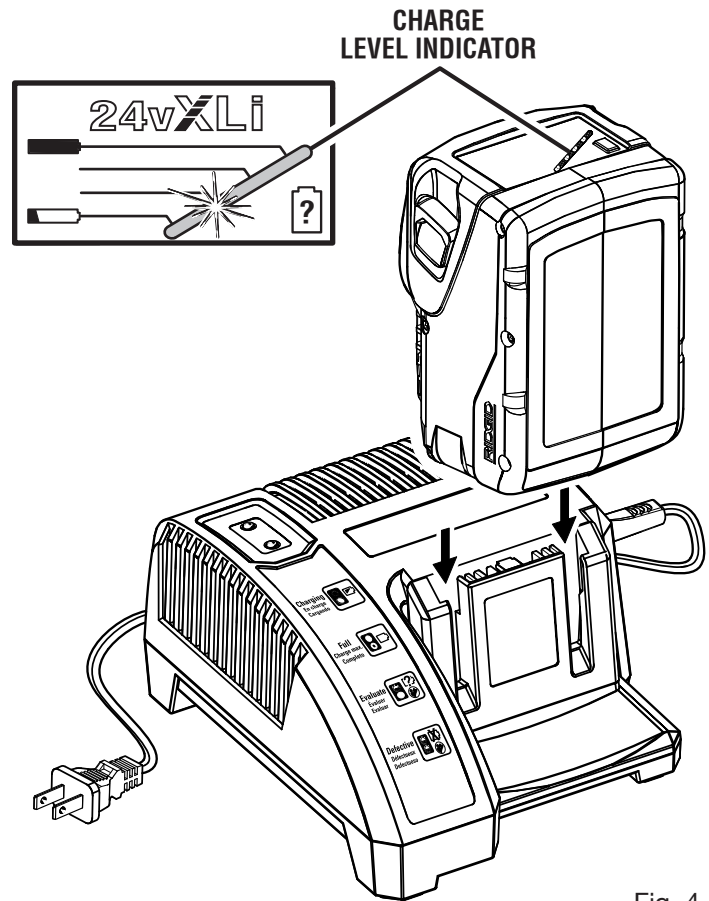

Fig. 4
- Attach the battery pack to the charger by aligning the raised ribs on the battery pack with the grooves in the charger, then slide the battery pack onto the charger. See *Figure 4*.